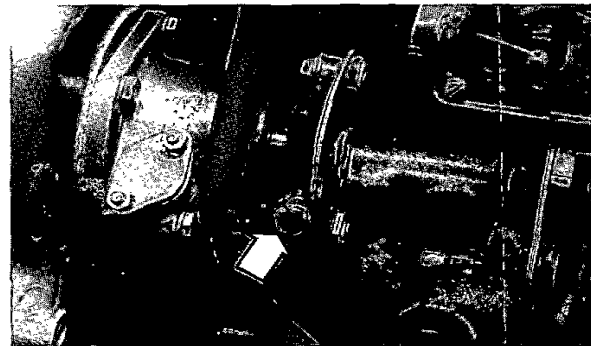

Fig. 141. Clamp bolt for front flange
4. Loosen the clamp bolt (fig. 141) and remove the flange from the shaft journal. Remove the key.